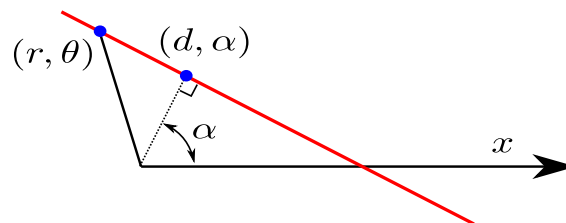

Figure 4.3: Representation of a line drawn a distance  $d$  from the origin.
32) Determine the equilibrium shape of a crystal. This should be done using a computer and your favorite program or language (most likely MATLAB). The equation of a straight line in polar coordinates drawn from the origin of the polar coordinate system is  $r \cos(\theta - \alpha) = d$ , where  $(r, \theta)$  locate the points on the line,  $d$  is the perpendicular distance from the origin to the line and  $\alpha$  is the angle between the perpendicular to the line and the x-axis (see Figure 4.3).